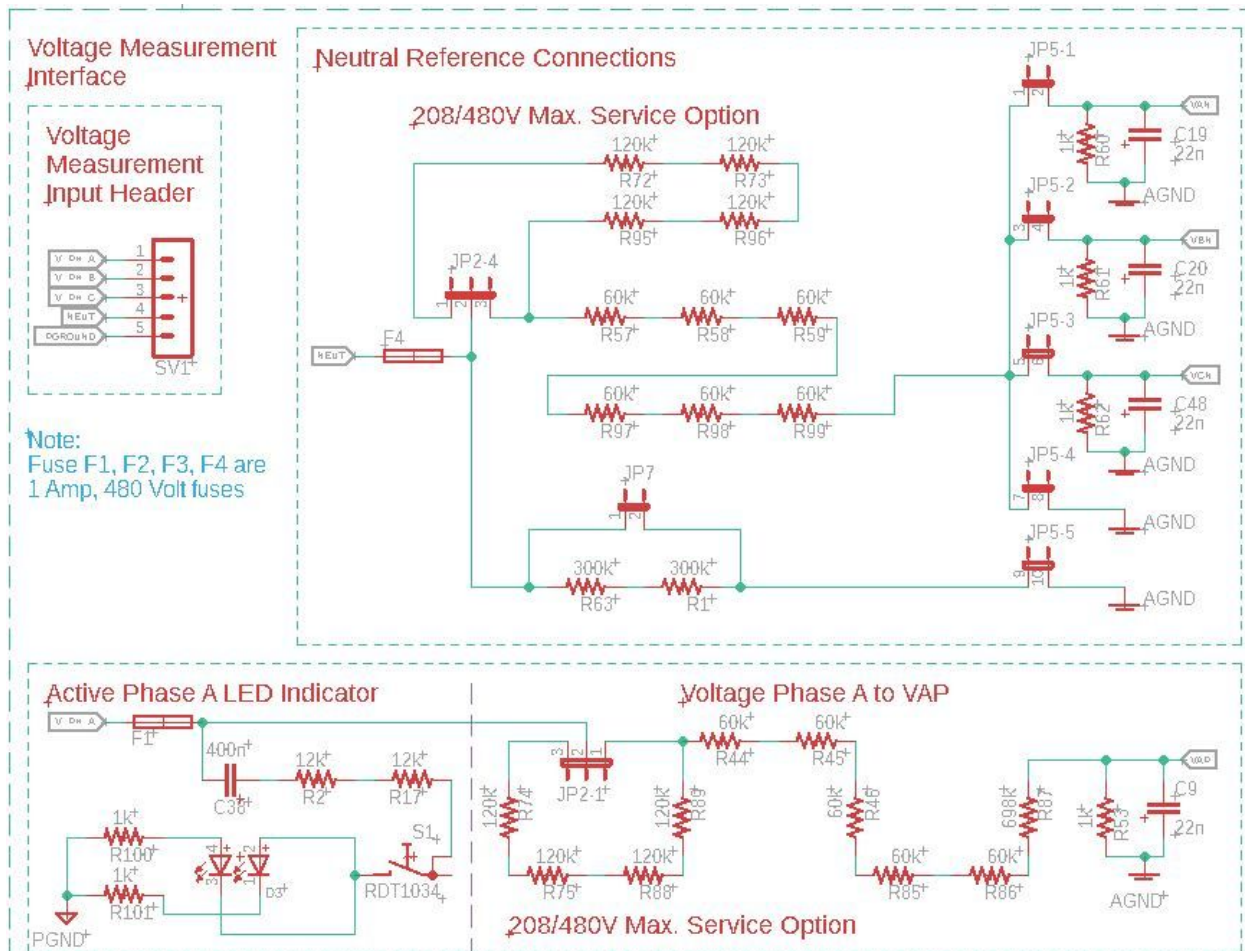

Figure 1. Eagle Schematic Revision 1.7 of Voltage Measurement Interface
*Phase B and C are omitted in Fig.1 because they are identical to the circuit of Phase A
For the 480 Vac option, the sum of the resistors must be 815 k Ω while the 208 Vac option needs the sum of the resistors to be 355 k Ω which is shown in Fig. 1.
then we can use the 480 Vac service option in Fig. 1 with a GAIN of 2 in the firmware side to measure for 240 Vac with 20% overvoltage head room. The same can be said about 120 Vac as well with a GAIN of 4. This potential add-on needs to be further studied with the datasheet to see if the GAIN setting affects accuracy or would cause an issue.